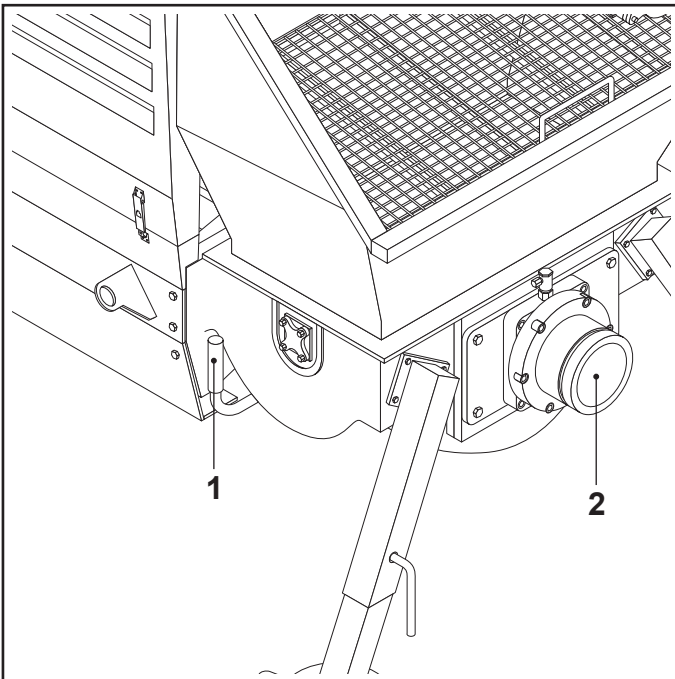

FIG. 50
- Open the hopper discharge chute (FIG. 50-REF. 1) to discharge the remaining slurry and then wash down the inside of the hopper with water.
- Introduce the water hose into the delivery conduit (FIG. 50-REF. 2) for about 15-20 centimetres, start pumping in reverse (button (d1)) and draw the water out of the S-valve. Continue until you see only clear water coming out of the hopper.